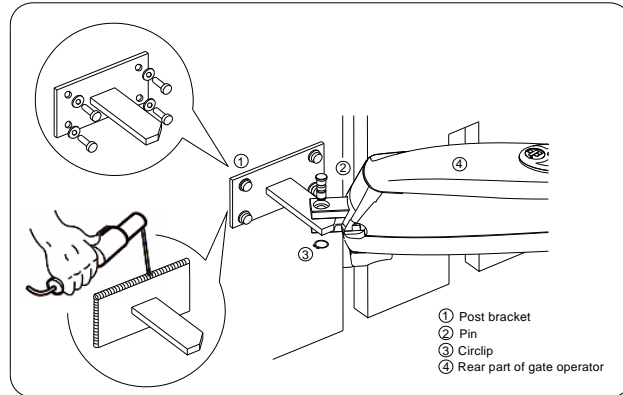

Fig.6
- Mount the rear part of the gate operator on the post bracket using the pin supplied, secure the pin using the circlip. See Fig. 6.